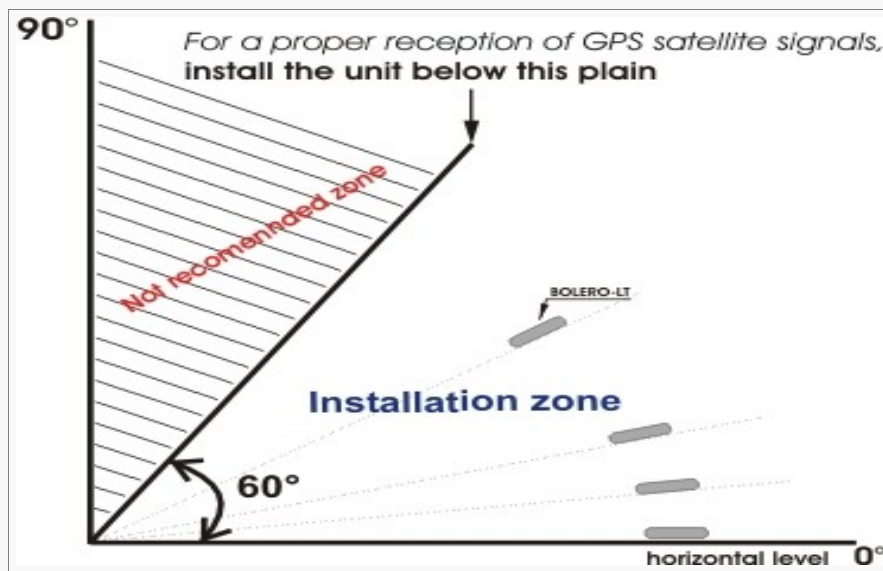

Figure 14: Installation area relative to the horizontal level
- ✓ For a proper reception of GPS signals, orient the unit at an angle from 0 to 60 degrees relative to the horizon (see fig. 14).